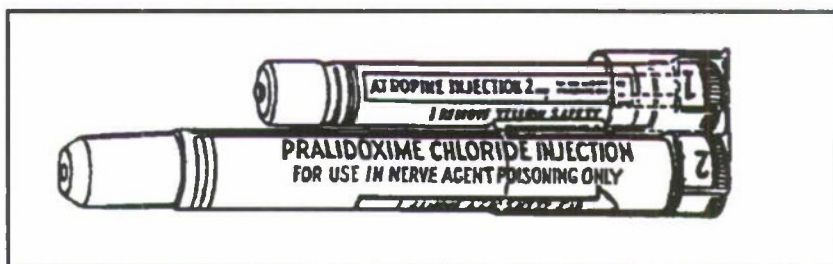

Figure D-3. Nerve agent autoinjector kit.
- Step 2. Remove a Mark I nerve agent autoinjector kit (NAAK) from your protective mask carrier (see Figure D-3).